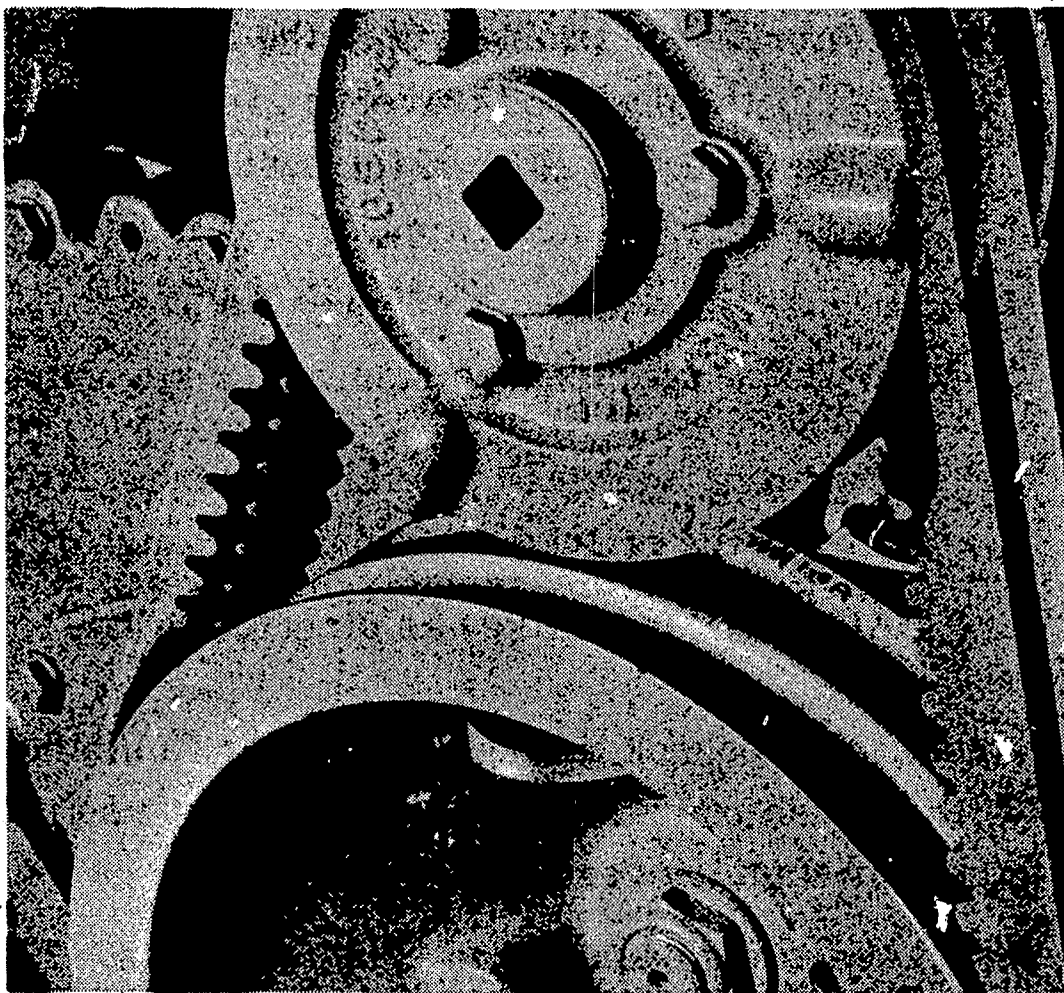

Fig. 3 Timing marks, water pump drive pulley.
STEP 2 Advance engine to 90° ATC (after top center). The top of the tool rod above the piston will be at 90° mark, also the timing VS mark, on the water pump drive pulley will line up with the timing mark on gear cover case for the cylinder being tested. Set indicator above push rod to "0"; see Figure 3.
3. Continue to rotate the crankshaft in its operating direction one-quarter turn and the 1-6 VS mark will align with timing mark, see Figure 3.